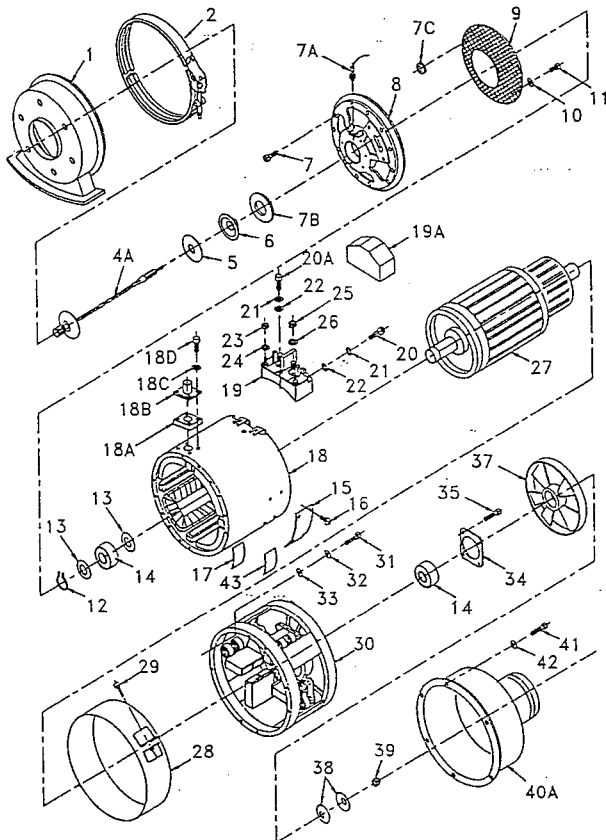

FIGURE 6-1
5. Refer to Figure 6-1 and 6-2. Remove blast cover (6-1-40A). Visually inspect brushes. Locate shortest brush. Lift up brush spring (6-2-2) for shortest brush. Remove brush (6-2-3). Do not remove more than one brush, as brush seating will be affected.